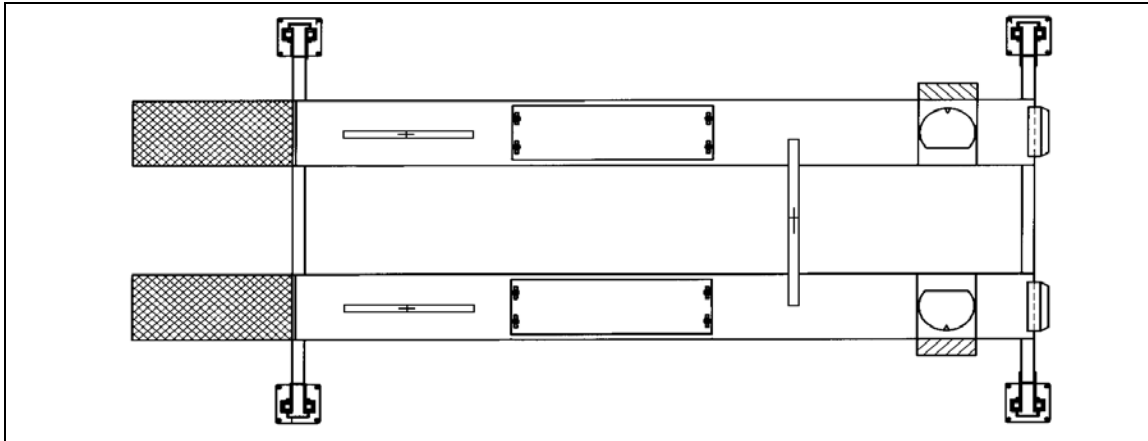

Figure 10. Deck leveling
- Using a 4' level, check the level of the decks front to rear and side to side as shown in Figure 10.
- Adjust the cable lengths by tightening or loosening the two (2) 7/8"-14UNF hex nuts attached to each cable at the tower top plate to raise or lower each corner.
- When flush with the safety shoe, tighten the two (2) 5/8"-11 UNC hex nuts at the top of each safety ladder and the 3/8"-16 UNC x 1"LG hex bolts at the bottom and top of each safety ladder (on the back side of the tower).